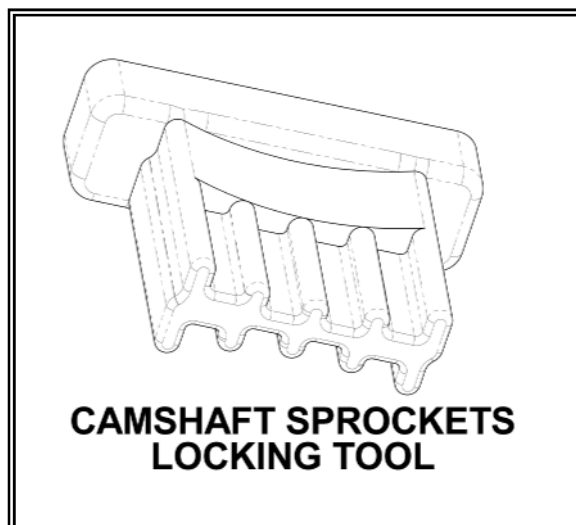
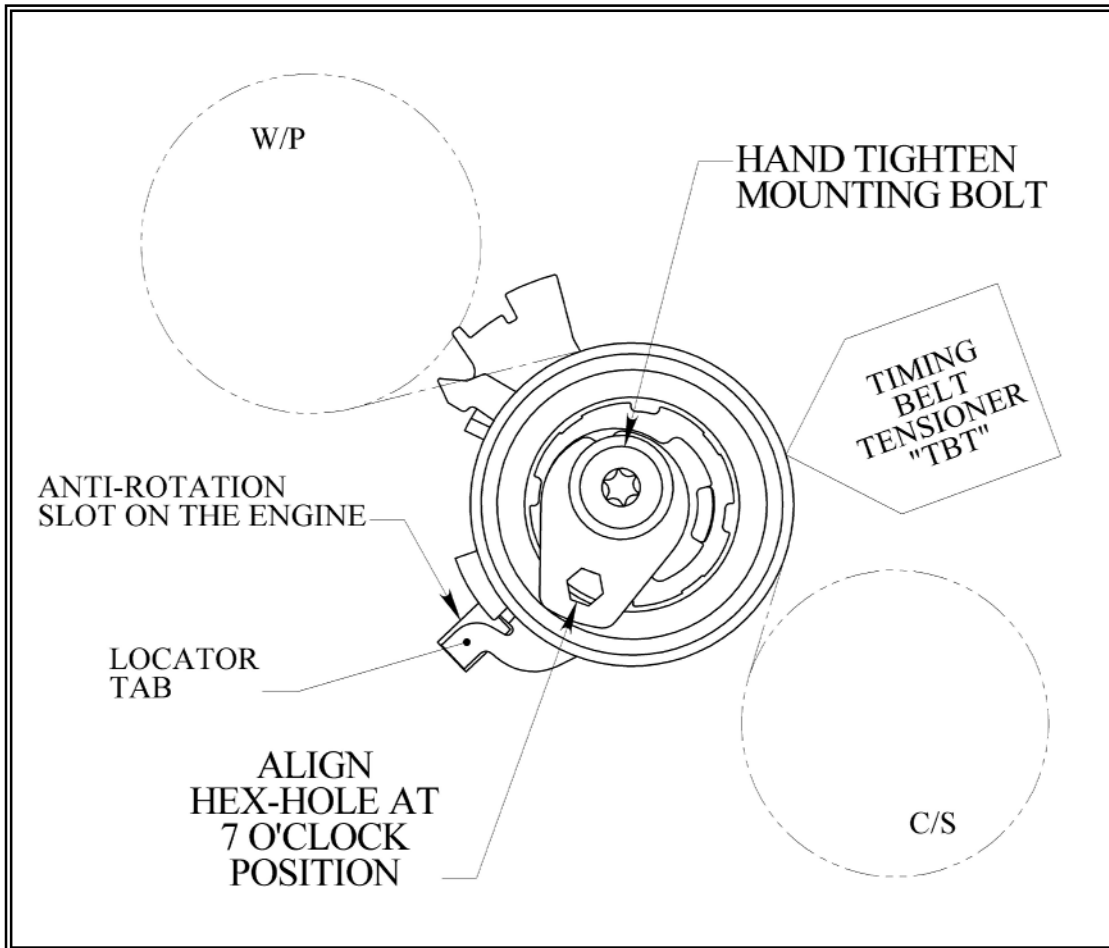

Fig 3: Camshaft Sprockets Locking Tool
Fig. 6: Pre-tightening set up of the Timing Belt Tensioner on the engine.
2. Rotate the crankshaft **CLOCKWISE ONLY** and align the marks on the Crankshaft sprocket with the corresponding mark on the engine block. At this point, the Camshaft sprockets' marks should also be aligned. It is recommended at this point to lock the camshafts together using a camshaft sprocket locking tool as shown in Fig. 3.
**If the alignment of the crankshaft and the engine block is missed, do not rotate the crankshaft counterclockwise to the correct position, but rather rotate the crankshaft two (2) more full rotations **CLOCKWISE** to the alignment point.**
4. Mount the new TBT on the engine. The TBT's Locator Tab should fit in the Anti-Rotation Slot in the oil pump housing on the engine (See Fig 6). Ensure that the TBT's arm pointer is below the flange of the water pump sprocket.
5. Rotate the Installation Shaft until its Hex Hole is pointing at the "7 O'clock position" then hand tighten (lightly) the Torx T40 Mounting Bolt (See Fig. 6). It is recommended that the Mounting Bolt should be hand tightened and loosened a ¼ (quarter) of a turn to aid in the installation of the belt.